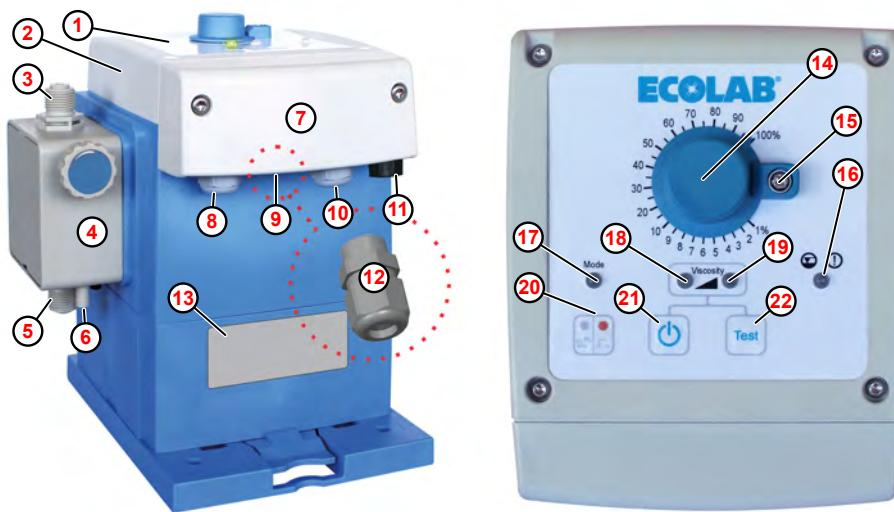

Fig. 1: Structure and controls 'EcoUp'
To connect the alarm signal cable, the pump is delivered with a compatible M12 x 1.5 cable gland (Fig. 1, ⑫).